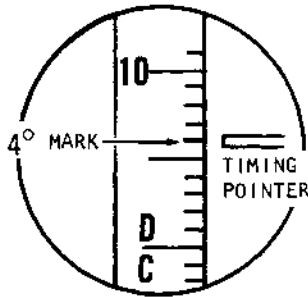

Figure 4 - Timing Marks
1. Crank the engine to position the No. 1 piston at 4° BTDC on its compression stroke. Refer to Figure 4.